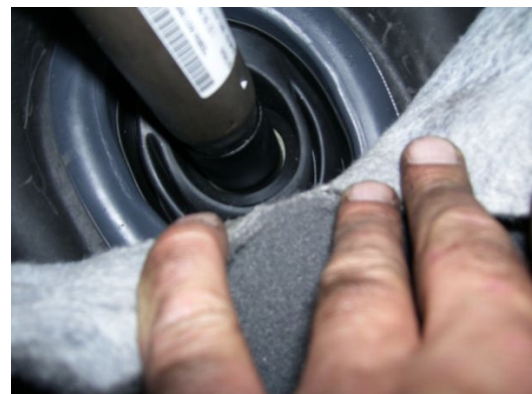

Figure 1. Sealing sleeve on the bulkhead.
The noise comes from the sealing sleeve/steering column opening on the bulkhead. For an example of the noise, listen to the audio file at <https://audi-external.kzoplatform.com:443/swf/player/304> (Figure 1).
Figure 1. QR code for viewing the video with a QR code reader on phones and tablets. Alternatively, the video can be accessed through computer internet browsers at the link provided in this bulletin.
1. Check the sealing sleeve for proper installation and fit (Figure 1).